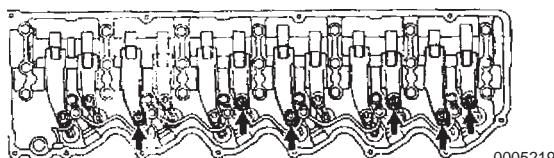

Figure 5-220
6. Check only the valves indicated by arrow in Figure 5-220.